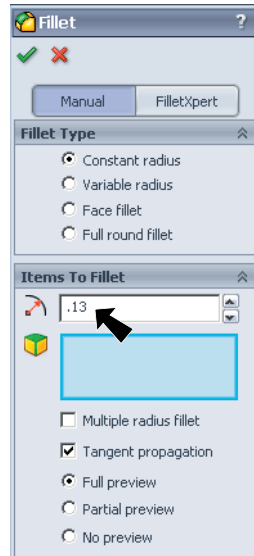

Fig. 22
Step 2. Set the **Radius**  to **.13** in the Fillet Property Manager, **Fig. 22**.